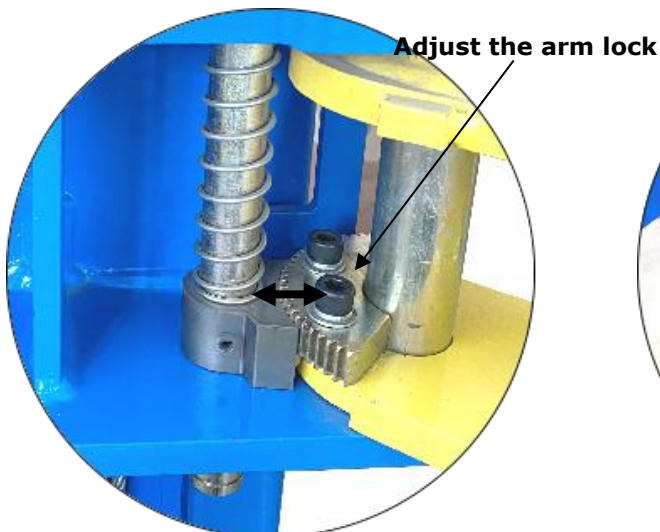

Fig. 30
3. Adjust the arm lock as direction of arrow (**See Fig. 30**)